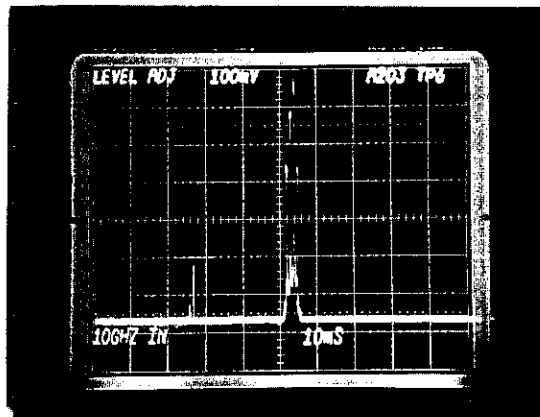

FIGURE 6-7
- (2) Ground A203TP1.
- (3) Apply a 1.5 GHz signal at +7 dBm; observe the Video Detector signal.
- (4) Slowly tune the frequency upward. At some frequencies, a spurious output corresponding to approximately one half the input frequency will be visible.
- (5) As the frequency is varied from 1.5 to 18 GHz, adjust A202R69 so no spurious signal has an amplitude in excess of 290 mV. Refer to Figure 6-7 for a typical display. (Vary scope time base as necessary to keep the display on the screen.)